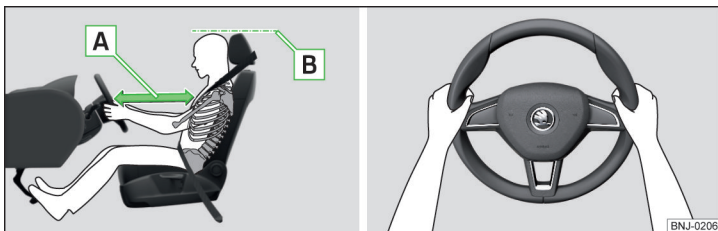

Fig. 2 Correct seated position for the driver/correct steering wheel position
- ✓ Adjust the steering wheel so that the distance A between the steering wheel and your chest is at least 25 cm » Fig. 2.
- ✓ Adjust the head restraint so that the top edge of the head restraint is at the same level as the upper part of your head B » Fig. 2 (not for seats with integrated head restraint).
- When driving, hold the steering wheel with both hands firmly on the outer edge in the "9 o'clock" and "3 o'clock" position » Fig. 2. Never hold the steering wheel in the "12 o'clock" position or in any other way (e.g. in the middle, inner edge of the steering wheel or similar). When the driver airbag is triggered you could seriously injure your arms, hands or head.
- ✓ Adjust the head restraint so that the top edge of the head restraint is at the same level as the upper part of your head **[B]** » Fig. 2 on page 9 (not for seats with integrated head restraint).
- ✓ Adjust the head restraint such that the top edge of the head restraint is at the same level as the upper part of the head **[B]** » Fig. 2 on page 9.